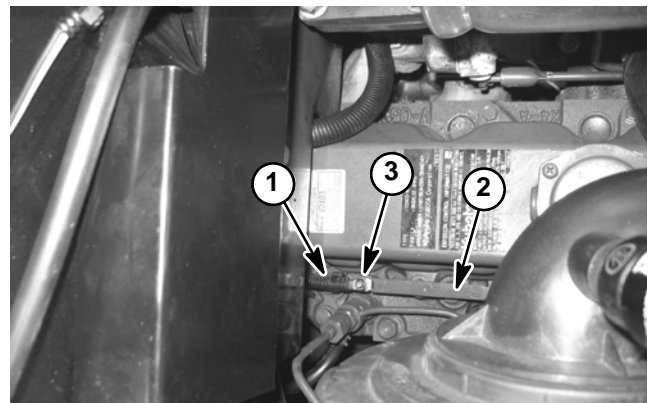

Figure 12
- B. The glow plugs (Fig. 12).